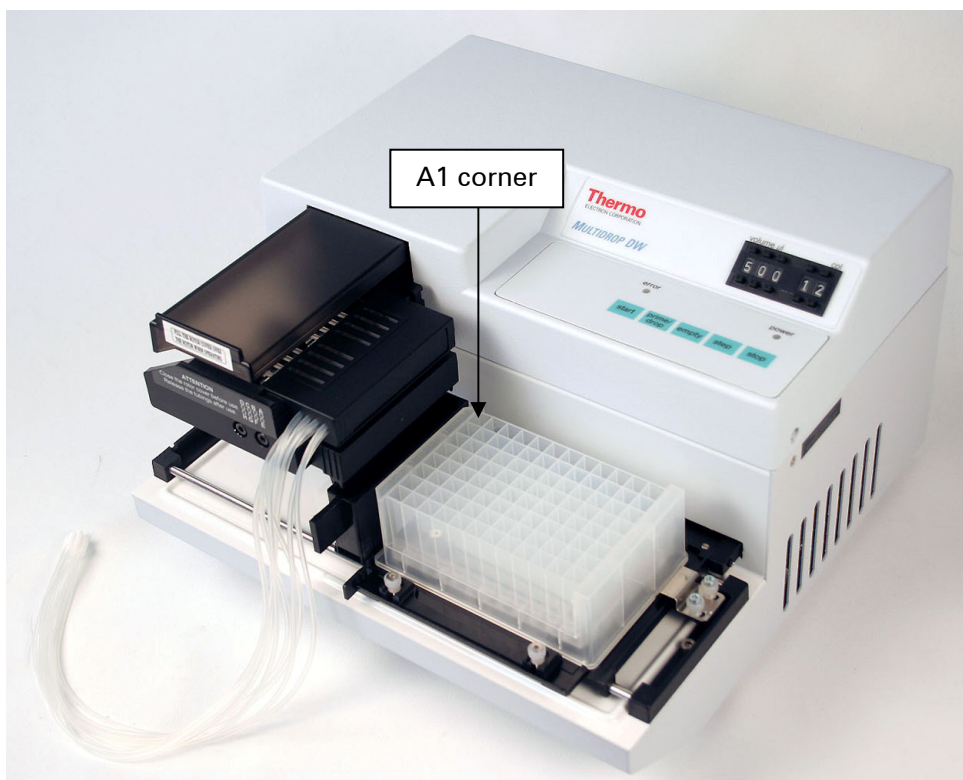

Fig. 6.7 Deep-well plate placed onto the plate carrier
- A Place the deep-well plate straight onto the plate carrier with the A1 corner of the plate located top left of the plate carrier (*Fig. 6.7*).
2. First place the deep-well plate straight onto the plate carrier (*Fig. 6.7*). Note that you must have the dispensing cassette ready installed. Refer to Section 6.3 How to insert the dispensing cassette and the priming vessel.